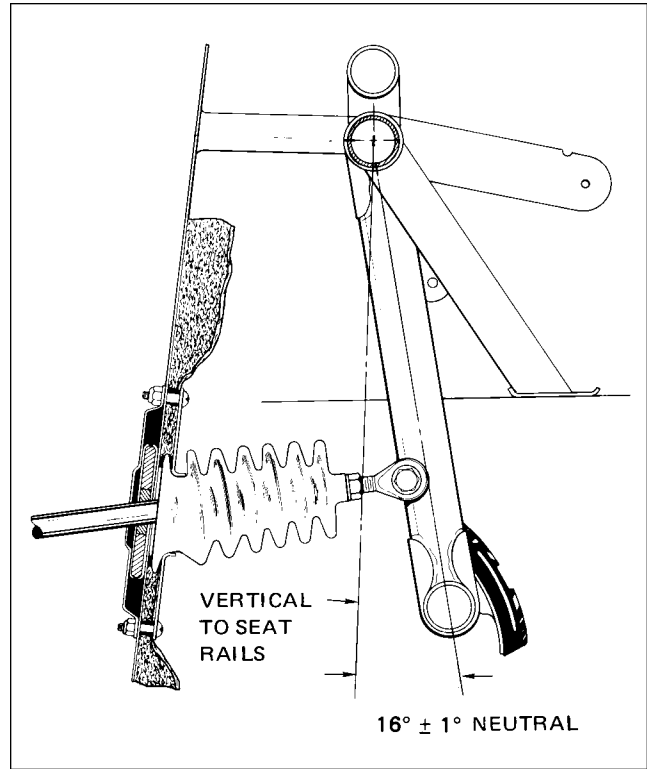

Figure 32-9. Rudder Pedals at Neutral Angle
8. Clamp the rudder pedals to align them in a lateral position. Ascertain that the rudder pedals are in their neutral position. (Refer to Figure 32-9.)
13. Place a bubble protractor against a rudder pedal steering tube to check the neutral angle as shown in Figure 32-9.